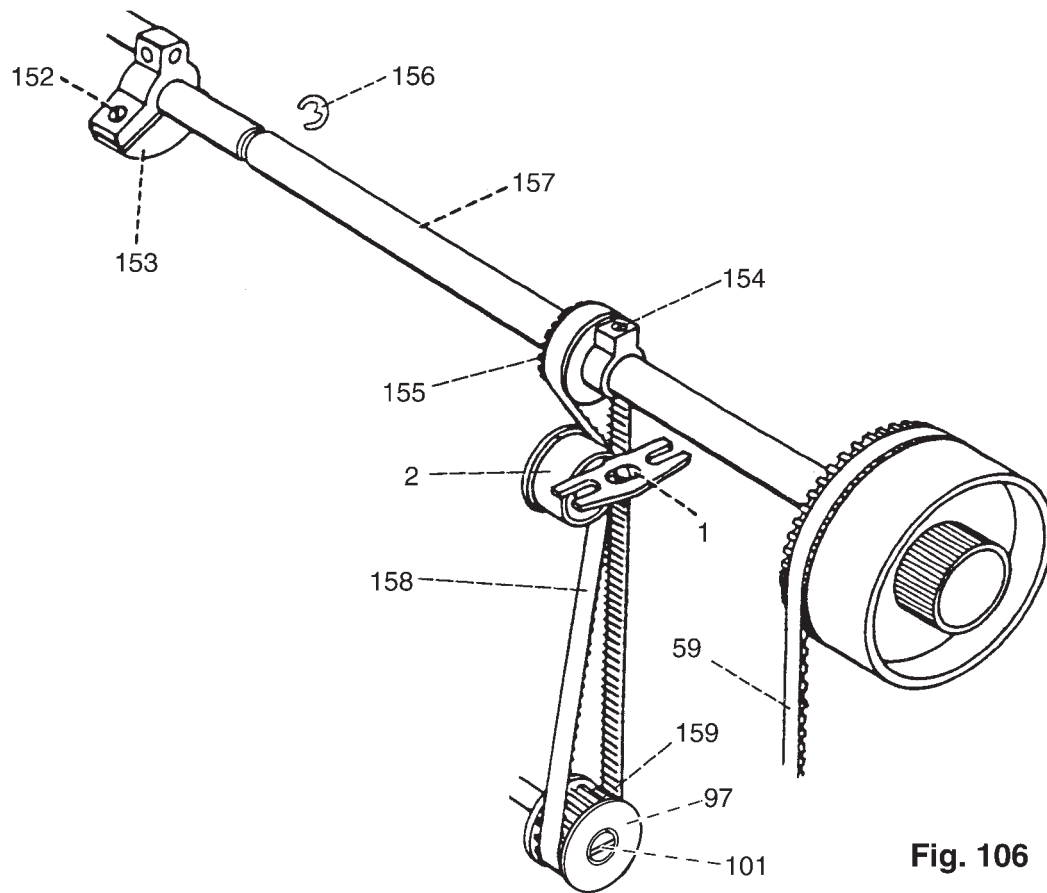

Fig. 106
- Loosen screw 152 in arm shaft crank 153 (fig. 106).